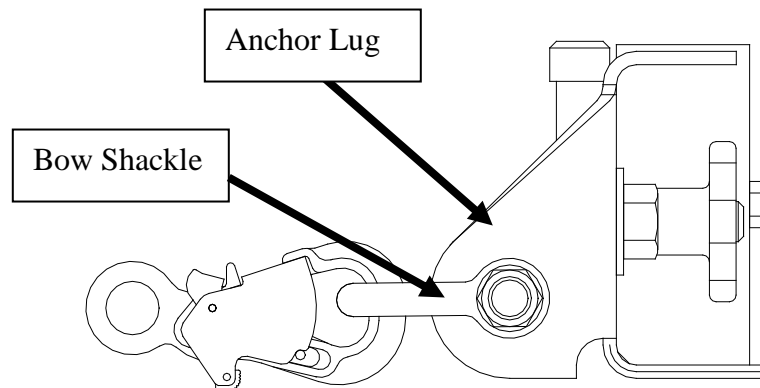

Fig. 4 Acceptable Method to Attach to the Personal Fall Arrest Anchorage Lug
**WARNING:** Because the anchor lug/attachment point is located right at foot level exposing the worker to a potential 12-ft. free-fall, extreme caution must be used in selecting a personal fall arrest device. Only shock-absorbing lanyards that are approved for use in 12-ft. free-falls may be used. Only one person may be attached to the anchor/bow shackle at one time. Do not connect directly to the anchor lug with a snaphook or carabiner; the gate could become side-loaded creating the possibility of roll-out. Connect only to the bow shackle attached to the anchor lug. See Fig. 4.